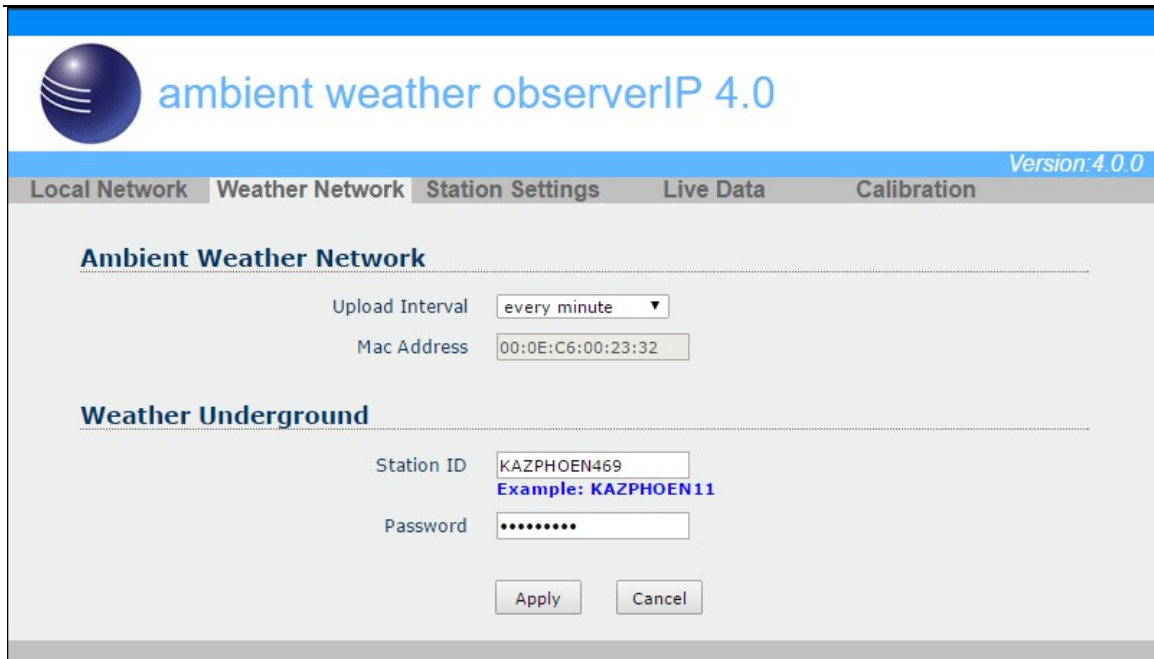
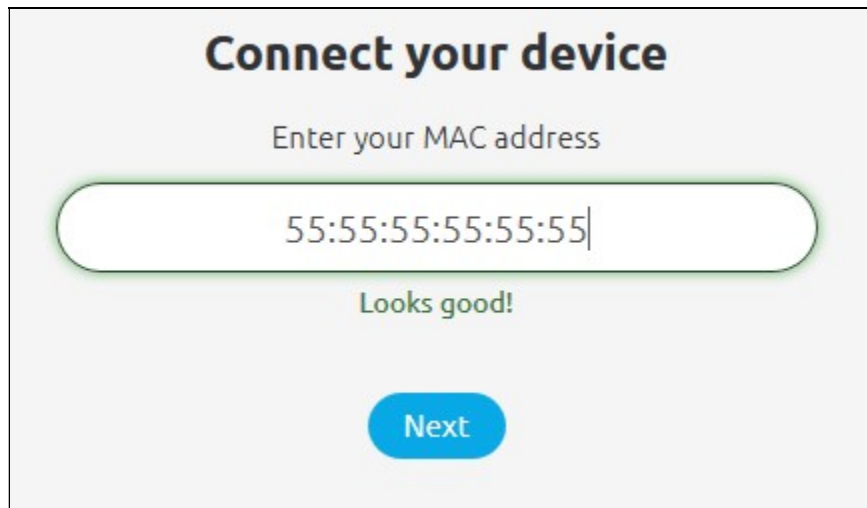

Figure 24
Figure 31
Select the **Weather Network** tab to program the Weather Underground station settings and Ambient Weather Network settings (AmbientWeather.net requires firmware Version 4.0 or greater). Reference Figure 24:
Enter the Station ID (ID), Station Key (Password) into the ObserverIP Weather Network Panel (Figure 24).
Reference Figure 24. Enter and update schedule and select **Apply**. Make a note of the MAC address. It will be required when you sign up at AmbientWeather.net.
Next, enter the MAC address found on your IP Module Weather Network Panel (Figure 24), as shown in Figure 31. Note that this is an example only and your MAC address will be different.